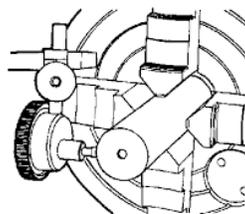

Figure Turn-11: inspection steps
14. During the machine turn off, workpiece surface can be inspected to verify the dimensions accuracy and surface alignment. See figure Turn-11.